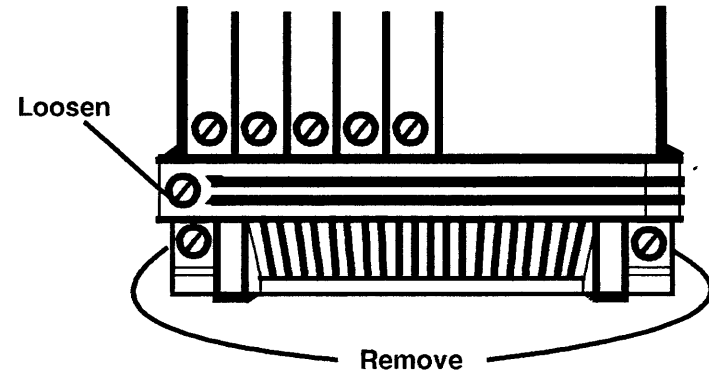

Figure 3. Cable Retainer Assembly
- a. Unscrew the cable retaining clamp screw (Figure 3) and swing the clamp away from the processor to free the cables.
- a. Unscrew the two screws (Figure 3) and remove the retainer.